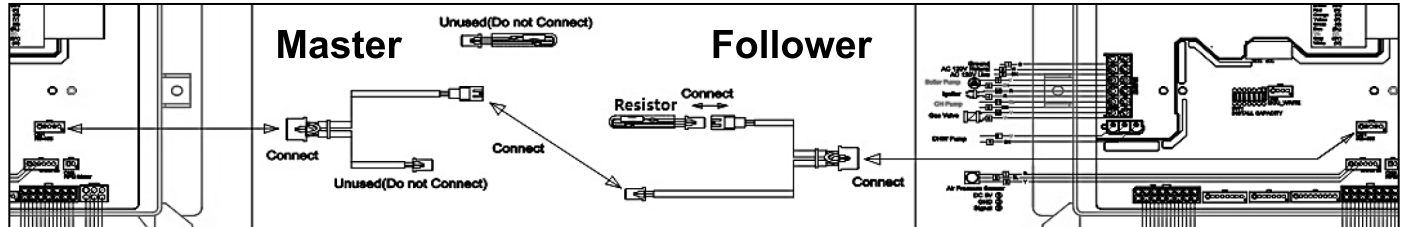

Figure 29 - Cascade Wiring Example
1. Connect the five pin connectors of the cascade communication cables to the control board of every unit. See Figures 29 and 30.